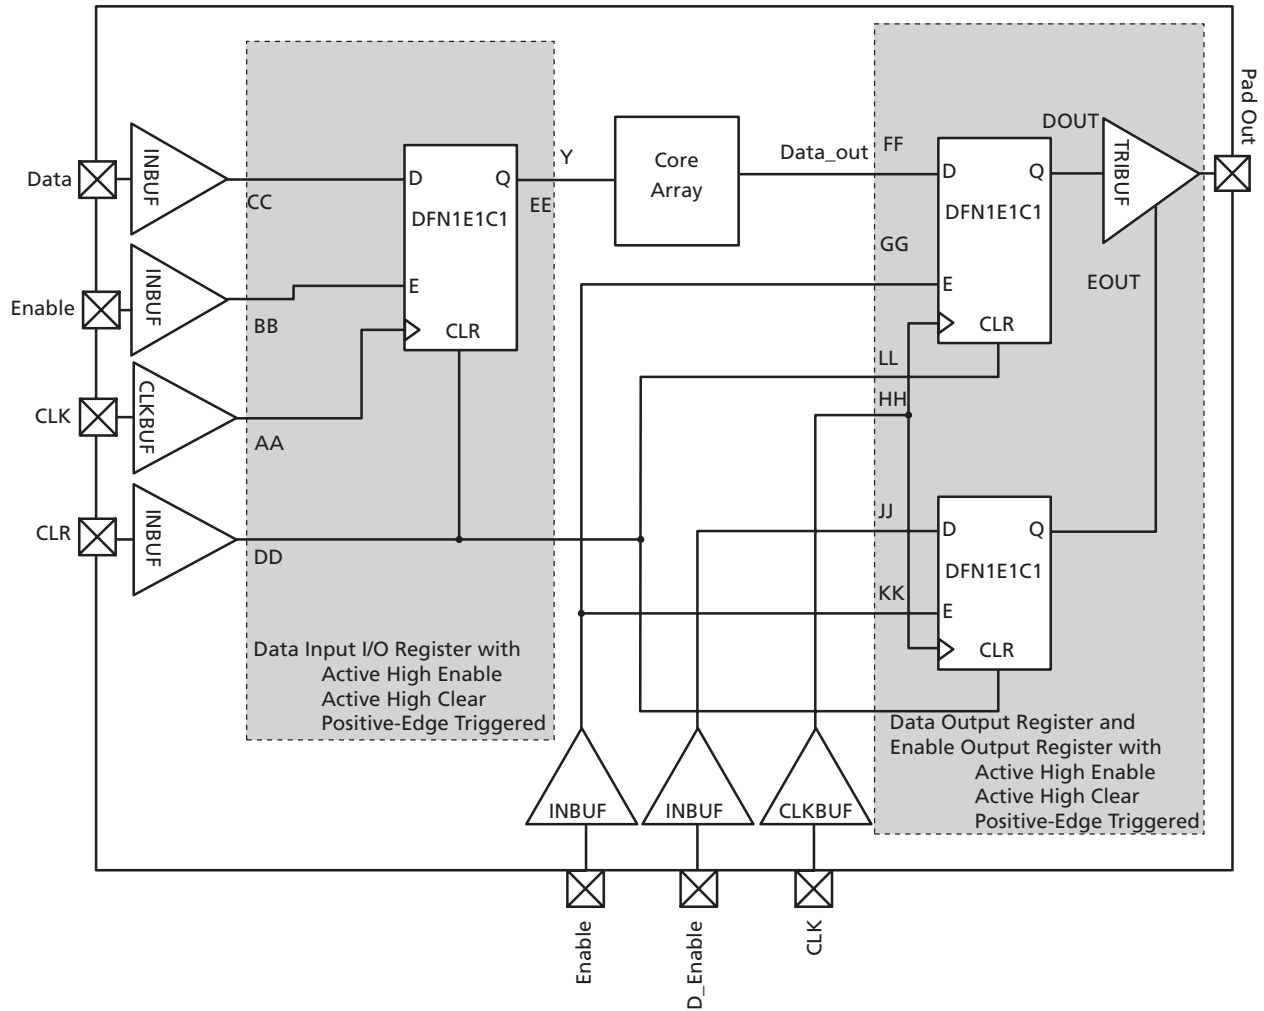

Figure 2-27 • Timing Model of the Registered I/O Buffers with Synchronous Enable and Asynchronous Clear
* See Figure 2-27 on page 2-98 for more information.